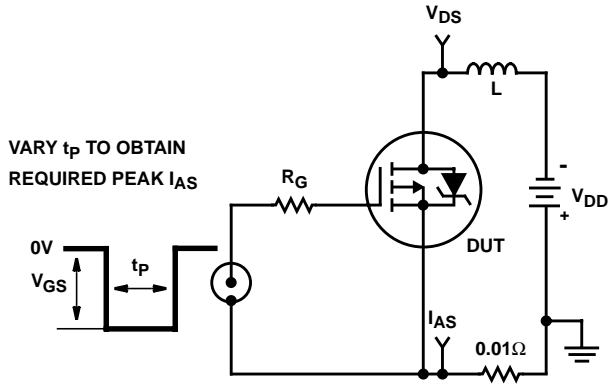

FIGURE 15. UNCLAMPED ENERGY TEST CIRCUIT
4. $V_{DD} = 50\text{V}$, starting $T_J = 25^\circ\text{C}$, $L = 35.5\text{mH}$, $R_G = 25\Omega$, peak $I_{AS} = 3.5\text{A}$ (Figures 15, 16).